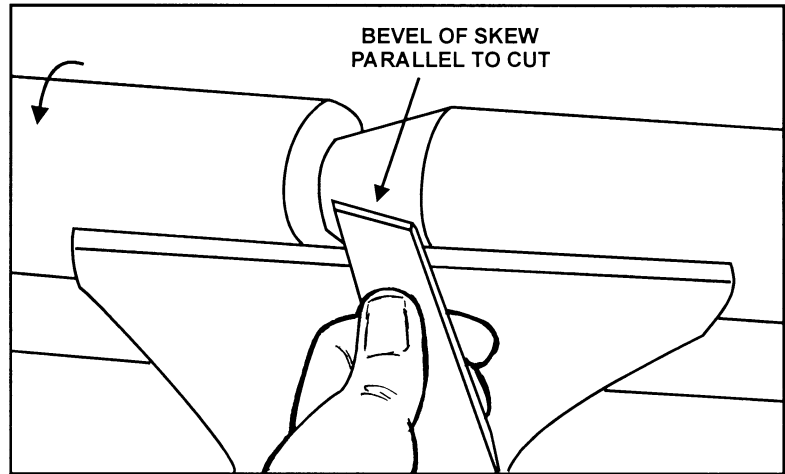

FIGURE 8
4. With the bevel parallel to the right side of the cut, raise the handle and push the tool in to the desired depth, as shown in Figure 8.